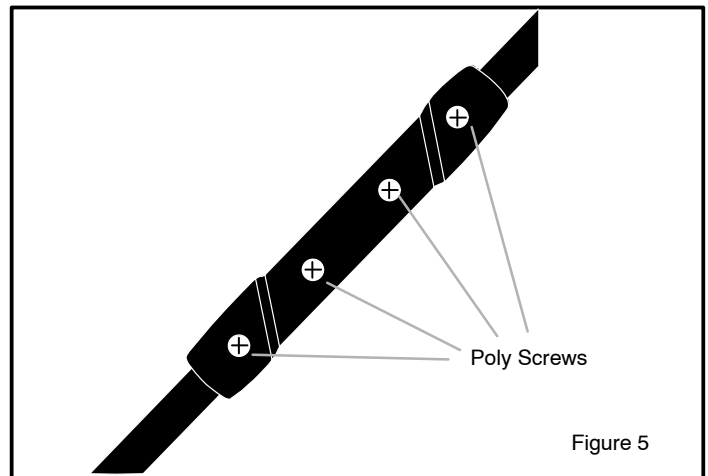

Figure 5
7. Secure center grips to handle using four #8 X 3/4 poly screws provided. Figure 5